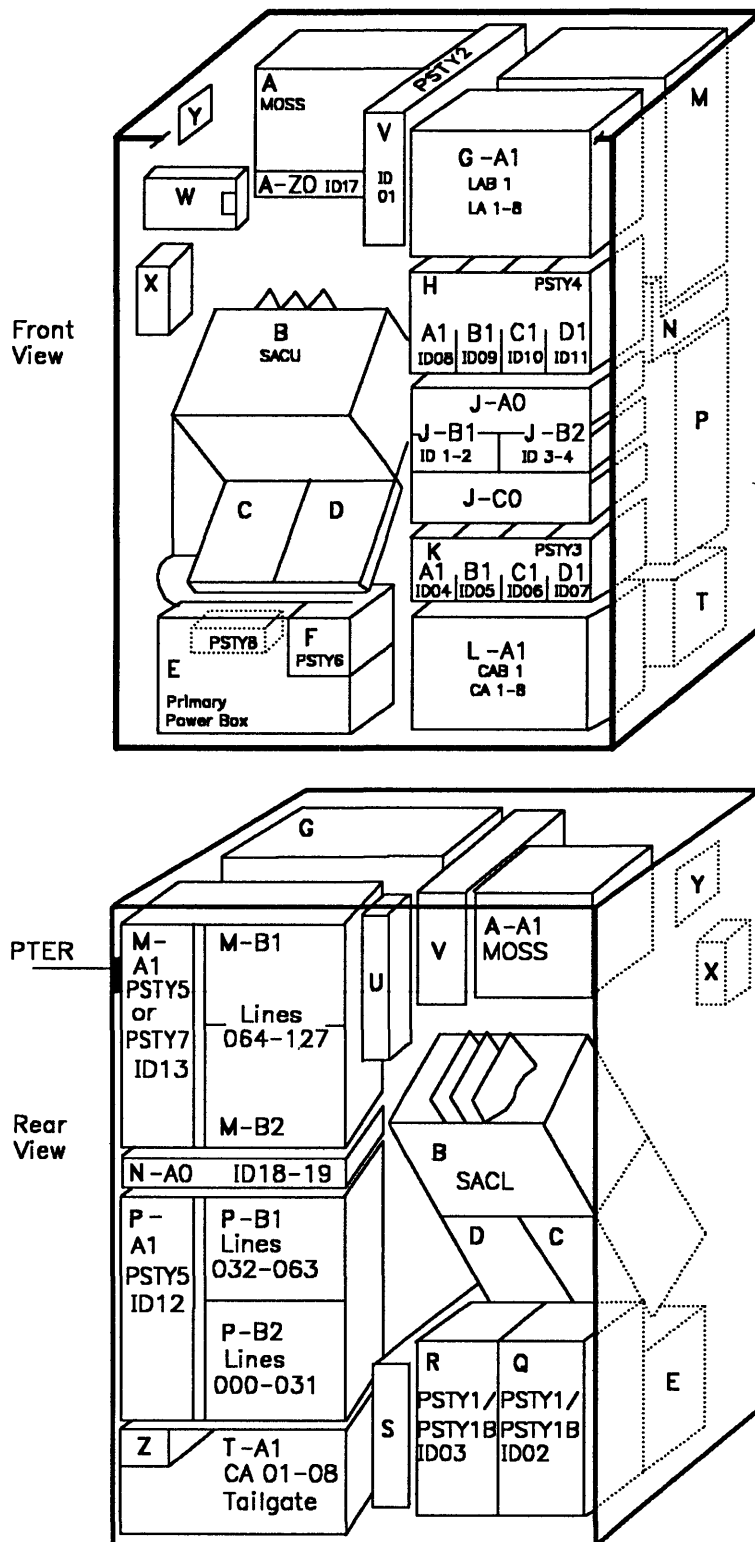

Figure 5-153. Frame 01 Front and Rear View
4. Refer to Figure 5-153 on page 5-154 to locate the SAC boards (SACU & SACL).